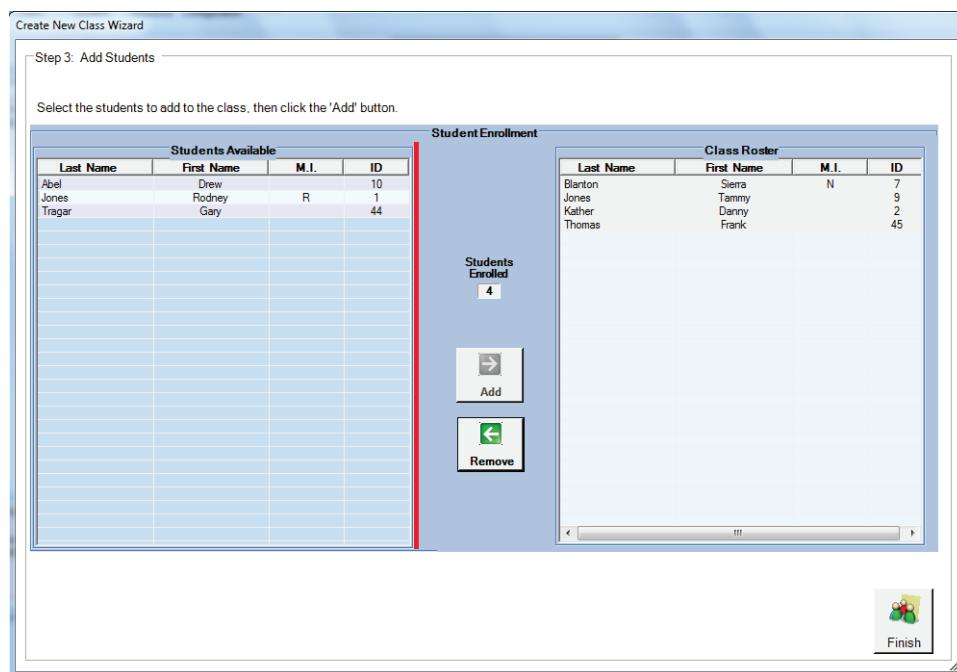

Figure 52. Students Added to Roster
- E. Select the student(s) that you wish to add to your class and then click the **Add** button to transfer the students to your Class Roster, as shown in figure 52.